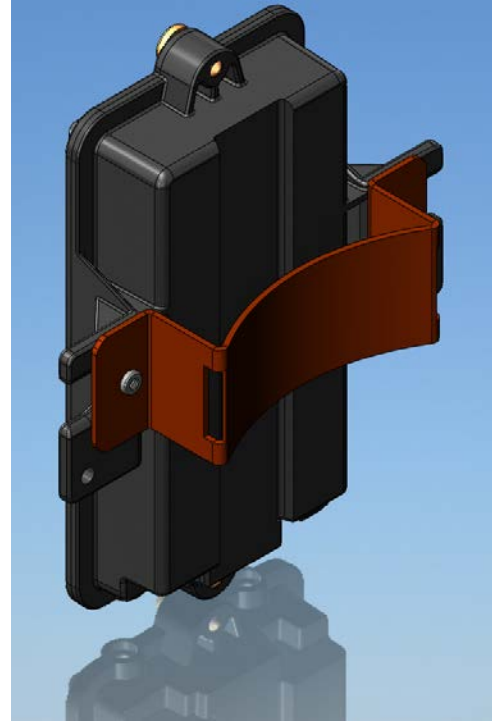

Figure 3. Unit with bracket
1. Attach bracket to unit (as shown in Figure 3) using hardware included with protector. Attach to bracket with torque 15-20 lbf-in.